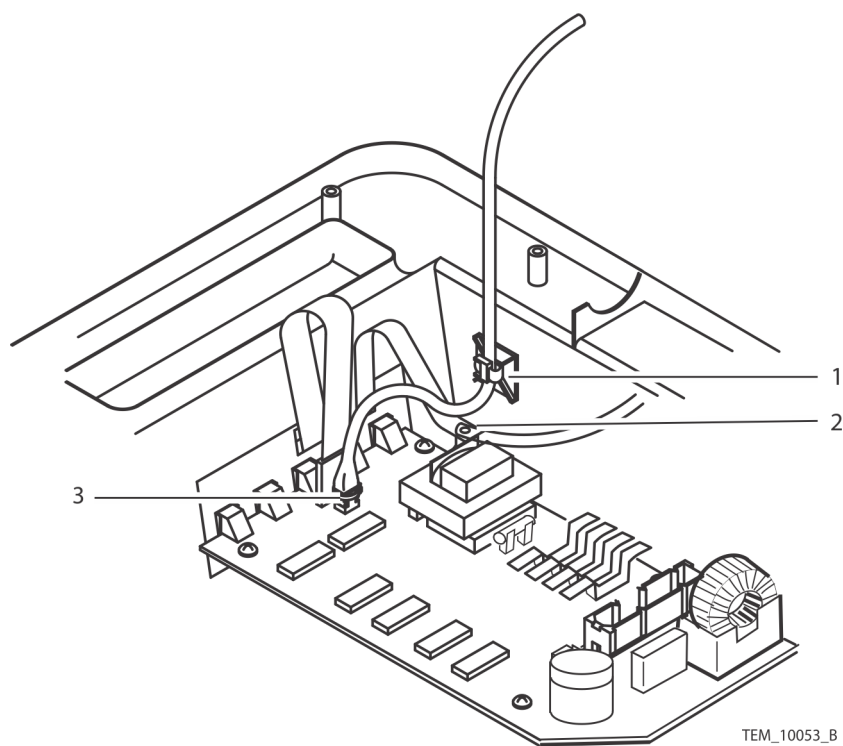

Figure 5-50. Cable Disconnect
15. Cut the cable tie. See Figure 5-50, item 1.
16. Remove the ground screw. See Figure 5-50, item 2.
17. Disconnect the thermistor cable connector. See Figure 5-50, item 3.